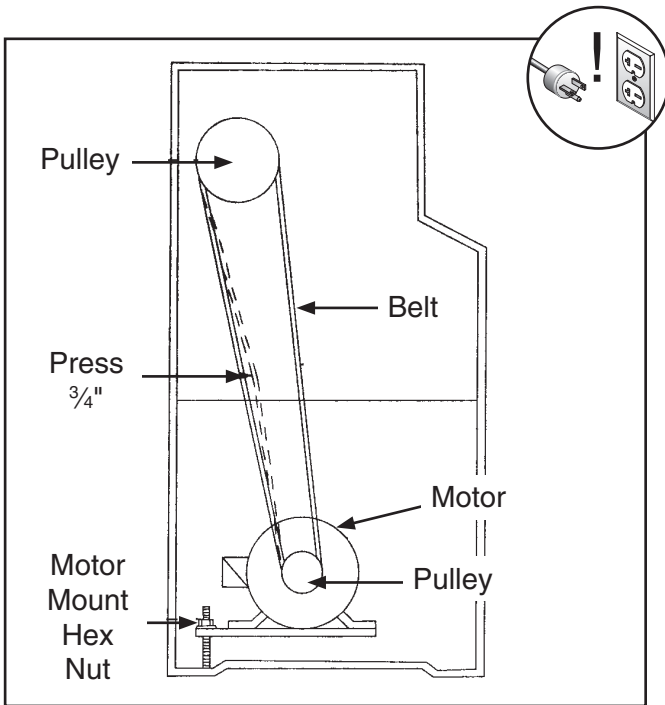

Figure 89. V-belt adjustments.
3. Remove the tension off the old V-belts by loosening the motor mount hex nut (see **Figure 89**).